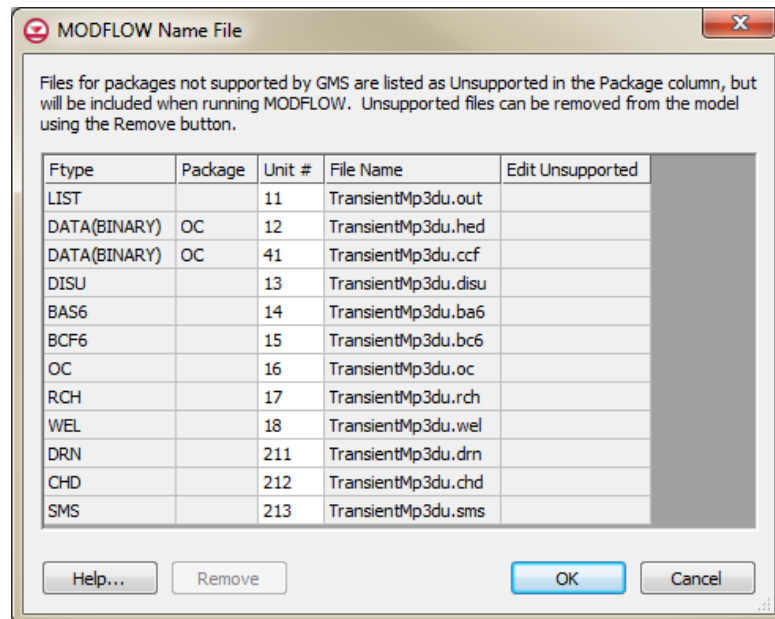

Figure 6 MODFLOW Name File dialog.
2. Scroll down so that unit numbers greater than “199” are visible (Figure 6).